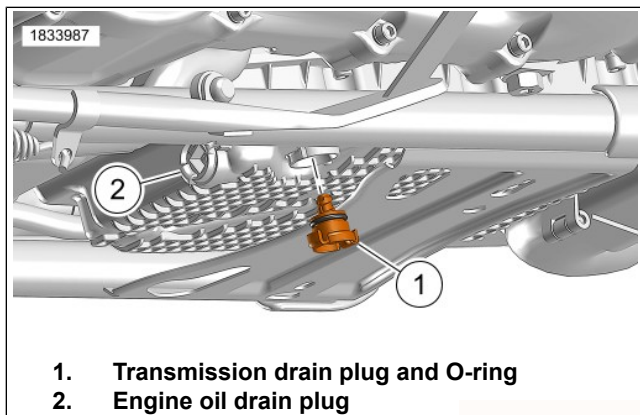

Figure 90. Transmission Drain Plug
- a. See Figure 90. Locate transmission oil drain plug and O-ring (1).